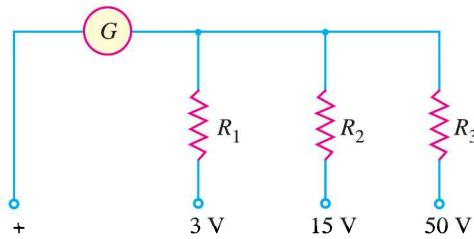

Fig. 22.29
2. The three range voltmeter is arranged as shown in Fig. 22.29. The ranges are 0 to 3 V, 0 to 15 V and 0 to 50 V as marked. If the full scale deflection current is 10 mA, what should be the values of R_1 , R_2 and R_3 ? The resistance of the meter is 5Ω . [305 Ω, 1505 Ω, 5005 Ω]